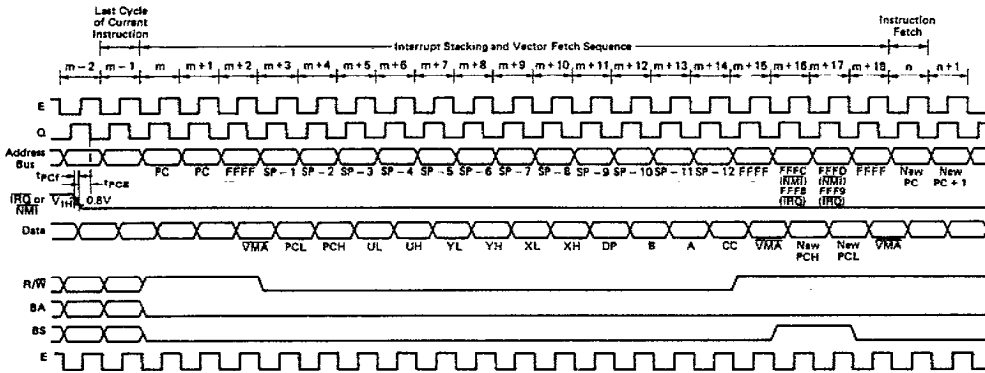

Figure 9 IRQ and NMI Interrupt Timing
hardware stack. After reset, an NMI will not be recognized until the first program load of the Hardware Stack Pointer (S). The pulse width of NMI "Low" must be at least one E cycle. If the NMI input does not meet the minimum set up with respect to Q, the interrupt will not be recognized until the next cycle. See Fig. 9.
A "Low" level input on this pin will initiate an interrupt Request sequence provided the mask bit (I) in the CC is clear. Since $\overline{\text{IRQ}}$ stacks the entire machine state it provides a slower response to interrupts than $\overline{\text{FIRQ}}$. $\overline{\text{IRQ}}$ also has a lower priority than $\overline{\text{FIRQ}}$. Again, the interrupt service routine should clear the source of the interrupt before doing an RTI. See Fig. 9.